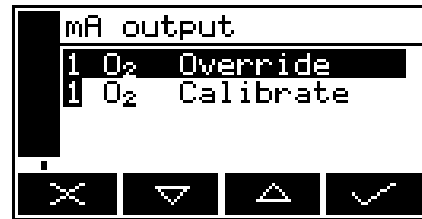

Figure 55 – The mA output service screen
4. When the mA output has been correctly calibrated, press the  soft key: the mA output service screen (Figure 55) will then be displayed again.